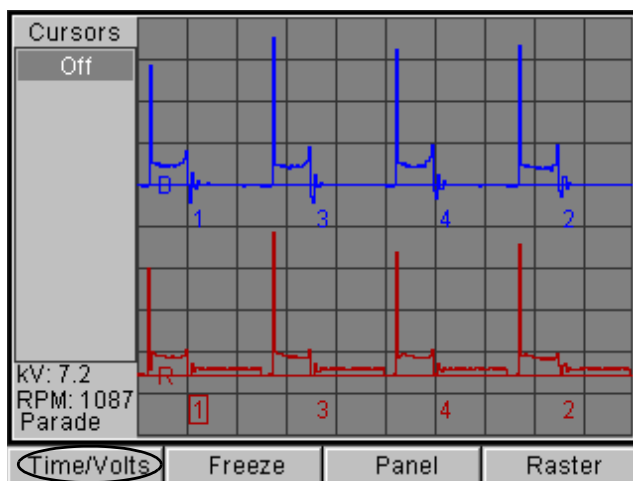

Figure 8.30: Ignition Scope Screen, DMM Off - Cursors Pane
- 2 Display the Cursors pane by pressing the **Cursors - Time/Volts** function key so the label is "Time/ Volts" and the Cursors pane is displayed, as shown in Figure 8.30.